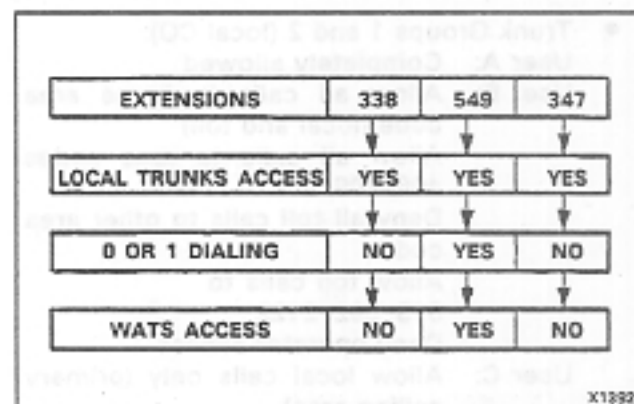

Fig. 5-3 0/1, WATS, Toll Restriction
5.08 In the SX-100/SX-200 system there are provisions for denial on dialing the digits one and zero. That is, if the first digit dialed is a one or a zero, the toll denied extension will be routed to the attendant or will receive re-order tone (Fig. 5-3).